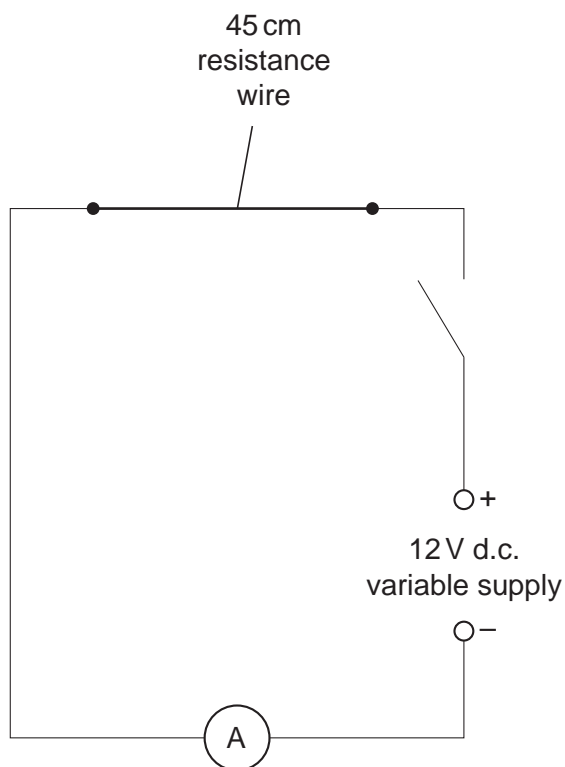

Fig. 2.2
- (a) Connect 45 cm of resistance wire, an ammeter and a 12 V variable power supply in series, as shown in Fig. 2.2. Use the crocodile clips available to make electrical contact with the measured length of the resistance wire.